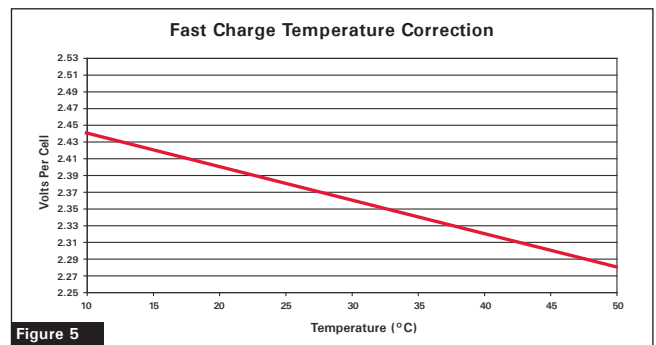

Figure 5
- 2) Where time based recharge is used, temperature compensation for charge voltage should be applied at the rates shown in figure 5.